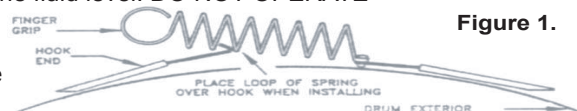

Figure 1.
- Wrap and clamp (see fig.1) band heater around drum.
- Place a loop of the spring over the hook (see fig.1). Be sure the heater has good contact with the drum.